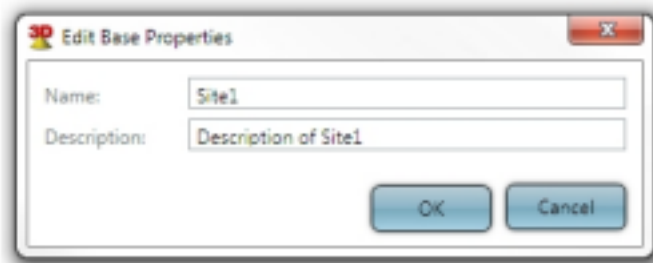

Figure 28: Edit Base Properties window
- 1 Select the vessel from the vessel selection bar (refer to *Main Screen* on page 27) and right-click the vessel. Select **Property** from the drop-down menu. The Edit Base Properties window opens (Figure 28). Enter the vessel name and description. Click **OK**.